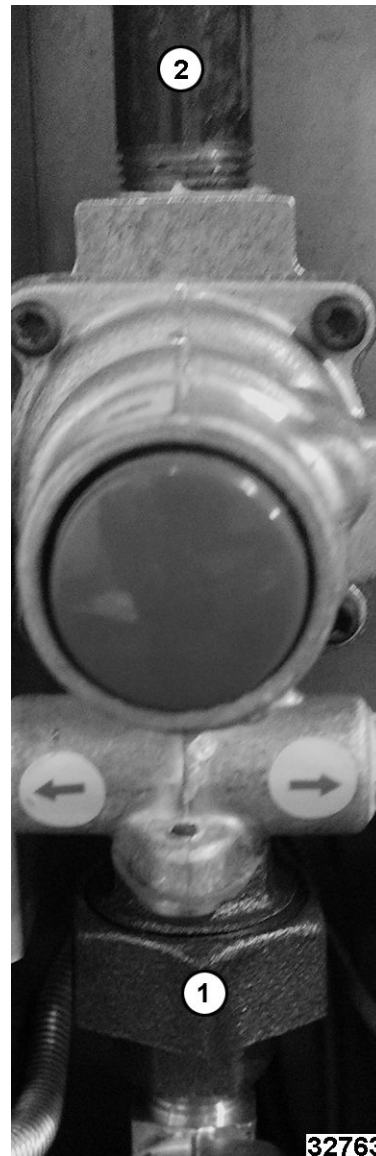

Fig. 26
3. Remove union fitting (1, Fig. 26) and pipe fitting (2, Fig. 26) from top and bottom of pilot safety valve.